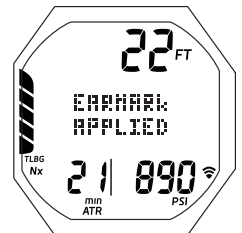

Fig. 81B - DECO STOP MAIN (shown for 3 seconds)
- M (< 2 sec) - to apply a snapshot Earmark to the PCI data recorded at that time. *The graphics EARMARK APPLIED will be displayed in place of Stop Depth/Time for 3 seconds (Fig. 81B).*